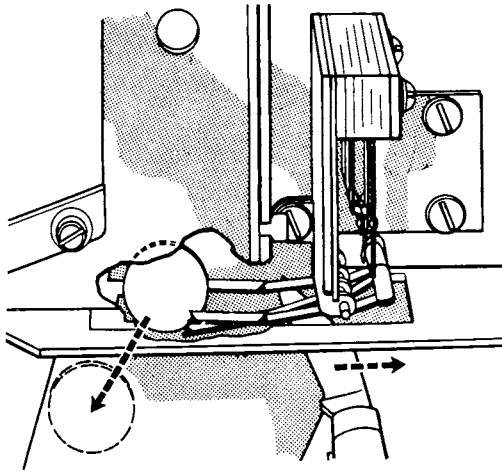

Figure 13. Coin Travel
2. Move the knife blade *slowly* to the right to release the coin. The contacts must come together and the back blade should move approximately $1/64$ " just before the coin drops through of its own weight. (See Figure 13).